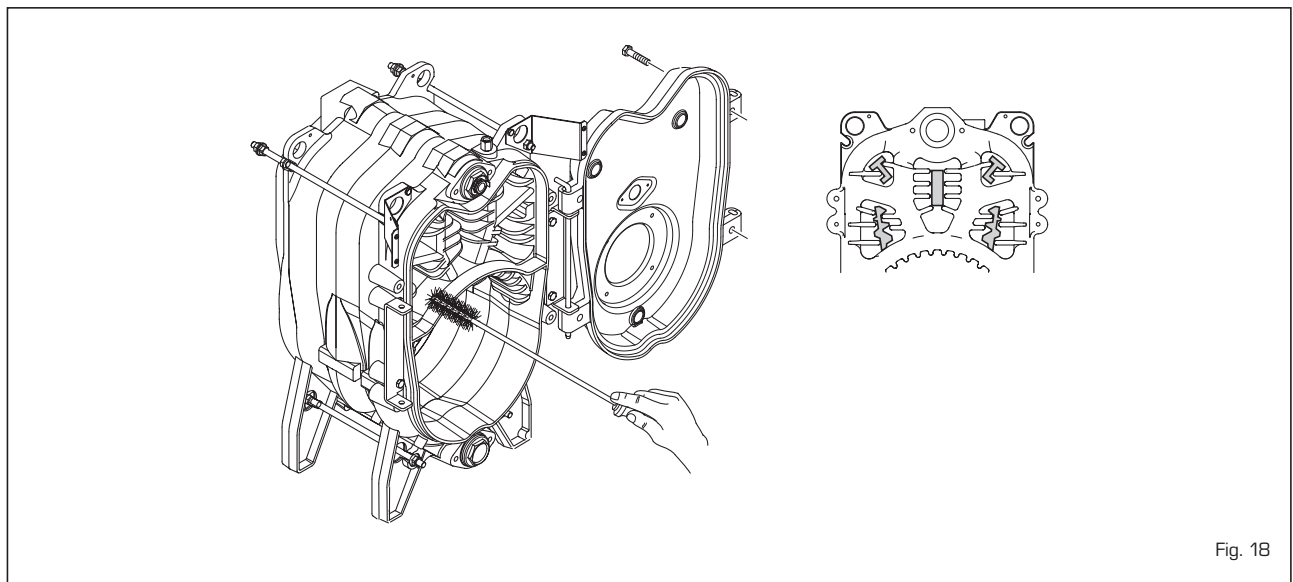

Fig. 18
4.4.1 Cleaning smoke ducts (fig. 18)
Use an adequate swab for cleaning the smoke ducts of the boiler. After cleaning, position the circulators in their original position (fig. 18).